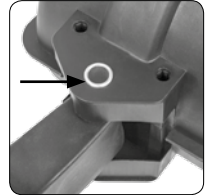

Fig. 3 Locking Plate
*Note: For fixed in-line position, fit the locking plate onto the Mounting Bracket prior to inserting the pivot pin. (Fig. 3)*